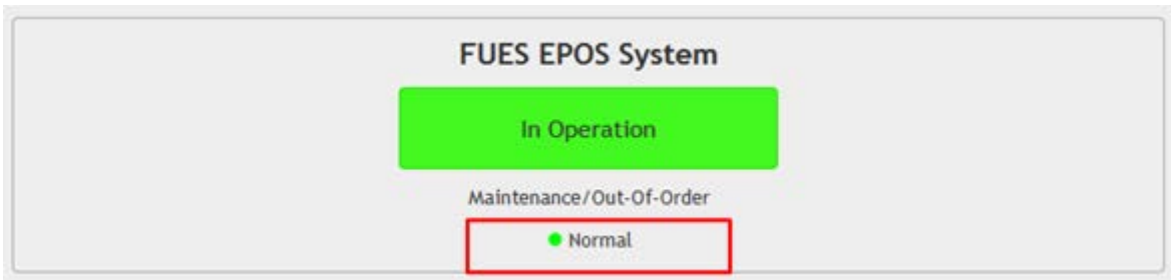

Figure 12 - Display of Operating mode “Normal” in the System Status display
- b) Click on menu item “Configuration” See Figure 12.